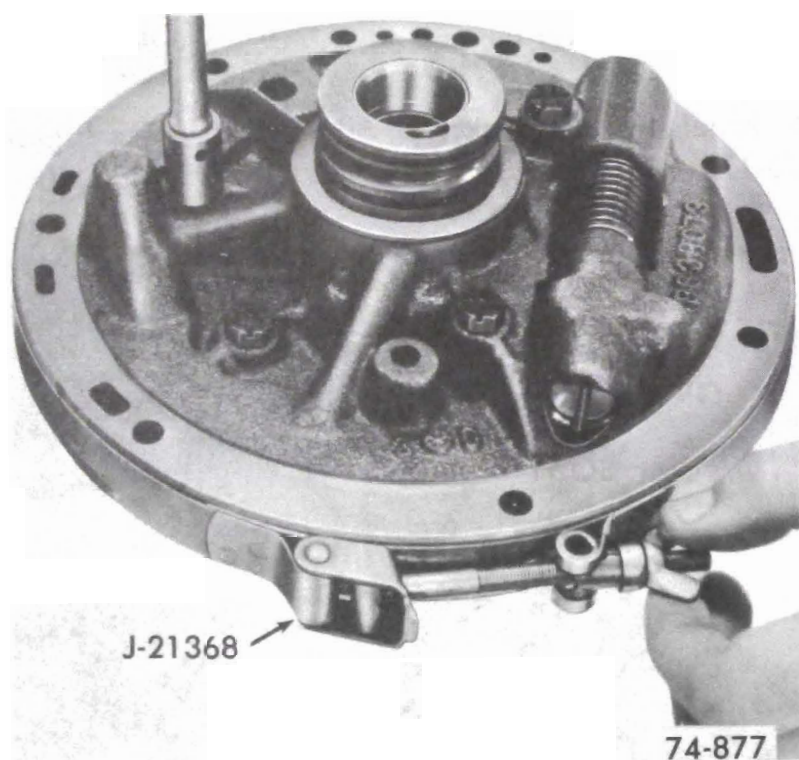

Figure 76-174
11. Place Pump Aligning Strap, J-21368, over pump body and cover, and tighten tool. See Figure 76-174.